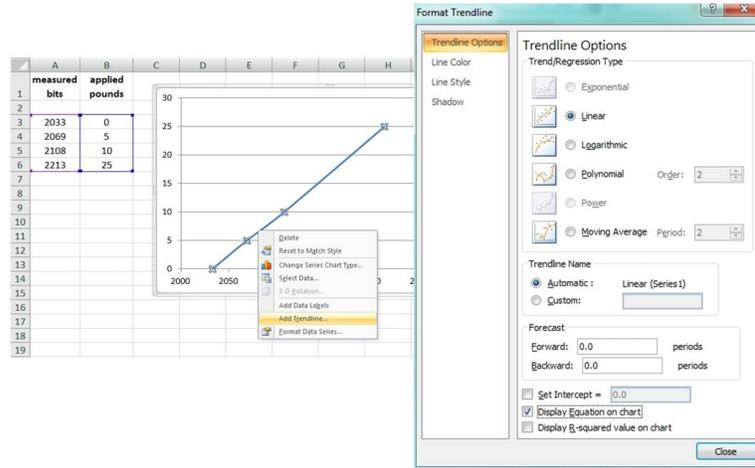

Figure 43 - Plot Trendline
5. Designate the line as Linear, and check the option to Display the Equation on the chart (Figure 43 - Plot Trendline).